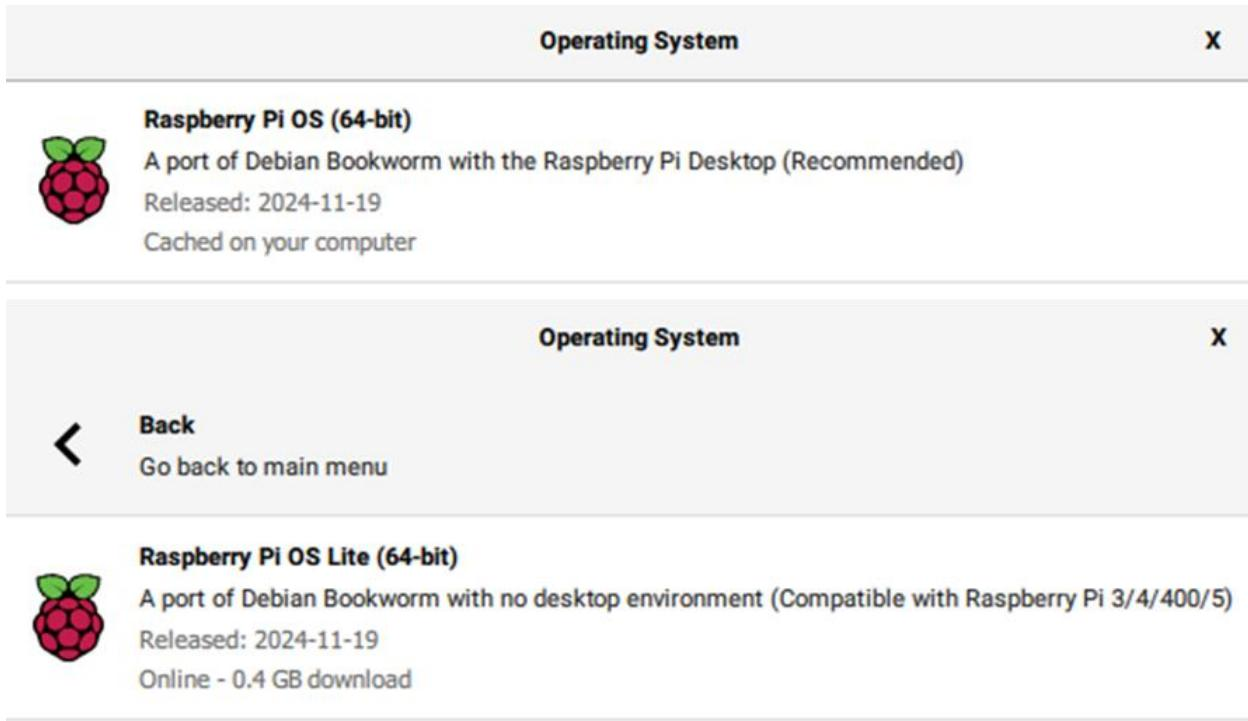

Figure 25. Desktop operating system (top) or headless operating system (bottom).
2. Select the operating system: with or without the desktop. The desktop version is not necessary and will use more power (though you can turn off booting to desktop) but is helpful with the initial setup (Figure 25).